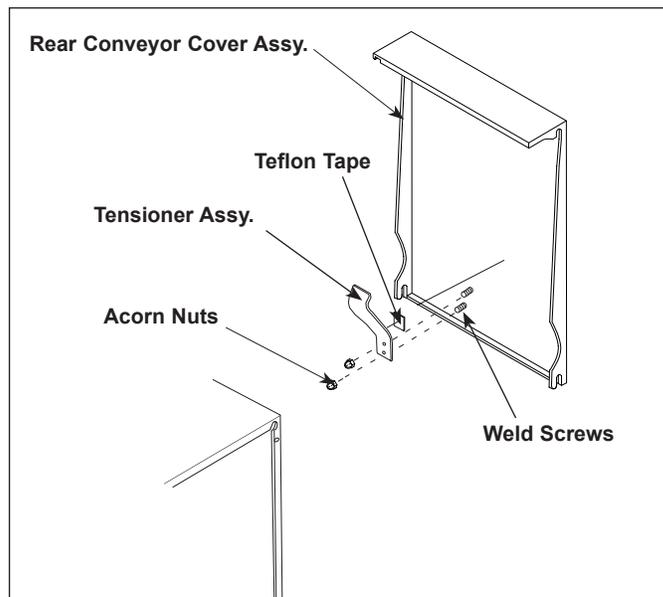

Figure 9. Replacing Spring Tensioner Assy.
1. Remove acorn nuts (Figure 9).